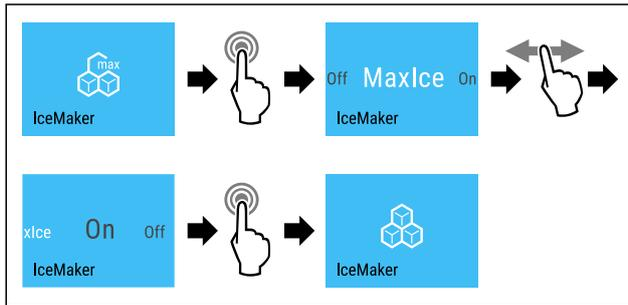

Fig. 22
- ▶ Complete the steps (see Fig. 22).